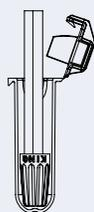

Fig. 3
6. Position wires into wire channels. Fig. 3